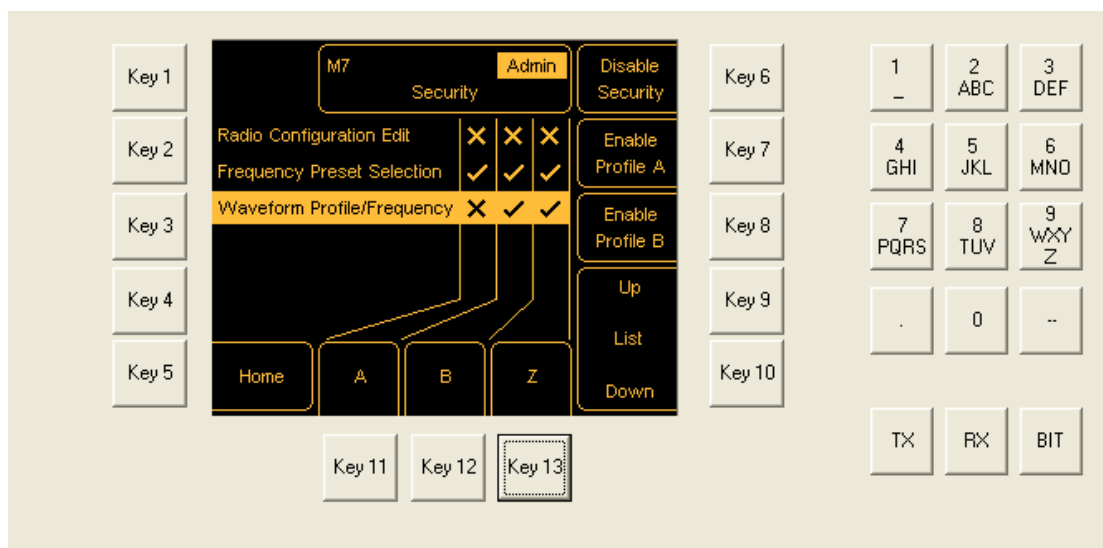
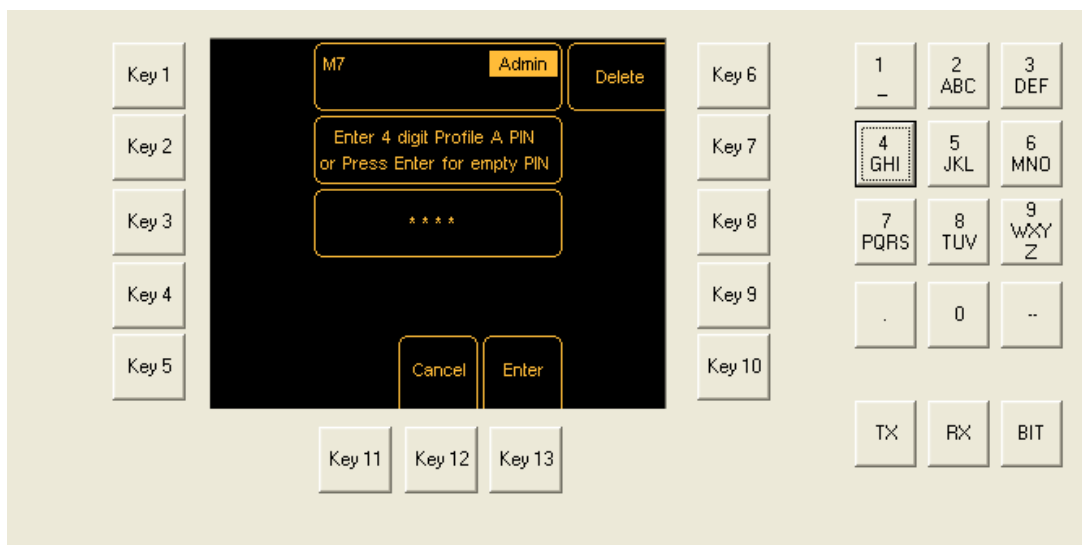

Fig 3-49 Security Screen (Example B)
Fig 3-50 Profile A Security Screen
- (4) Ensure the Security screen is displayed. Use **Key 9 – Up** and **Key 10 – Down** to highlight one of the three functions. Use **Key 11 – A**, **Key 12 – B** and **Key 13 – Z** to toggle between restricted (X) and no restriction (✓).
- (5) When the Security screen is set up as required (Fig 3-49) press **Key 7 – Enable Profile A**. The Profile A Security screen (Fig 3-50) is displayed.